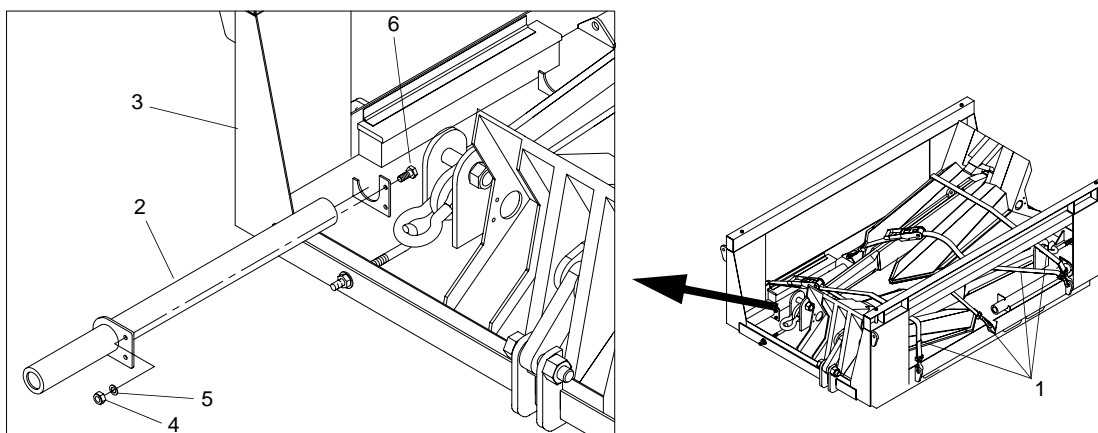

Figure 23. Anchor Stabilizers on Anchor Pallets
18. Remove four tie down straps (figure 23, item 1) from pallet.
19. Remove two anchor stabilizers (figure 23, item 2) from anchor pallet (figure 23, item 3) by removing nuts (figure 23, item 4), lockwashers (figure 23, item 5) and bolts (figure 23, item 6). Retain all parts for later installation on anchors.